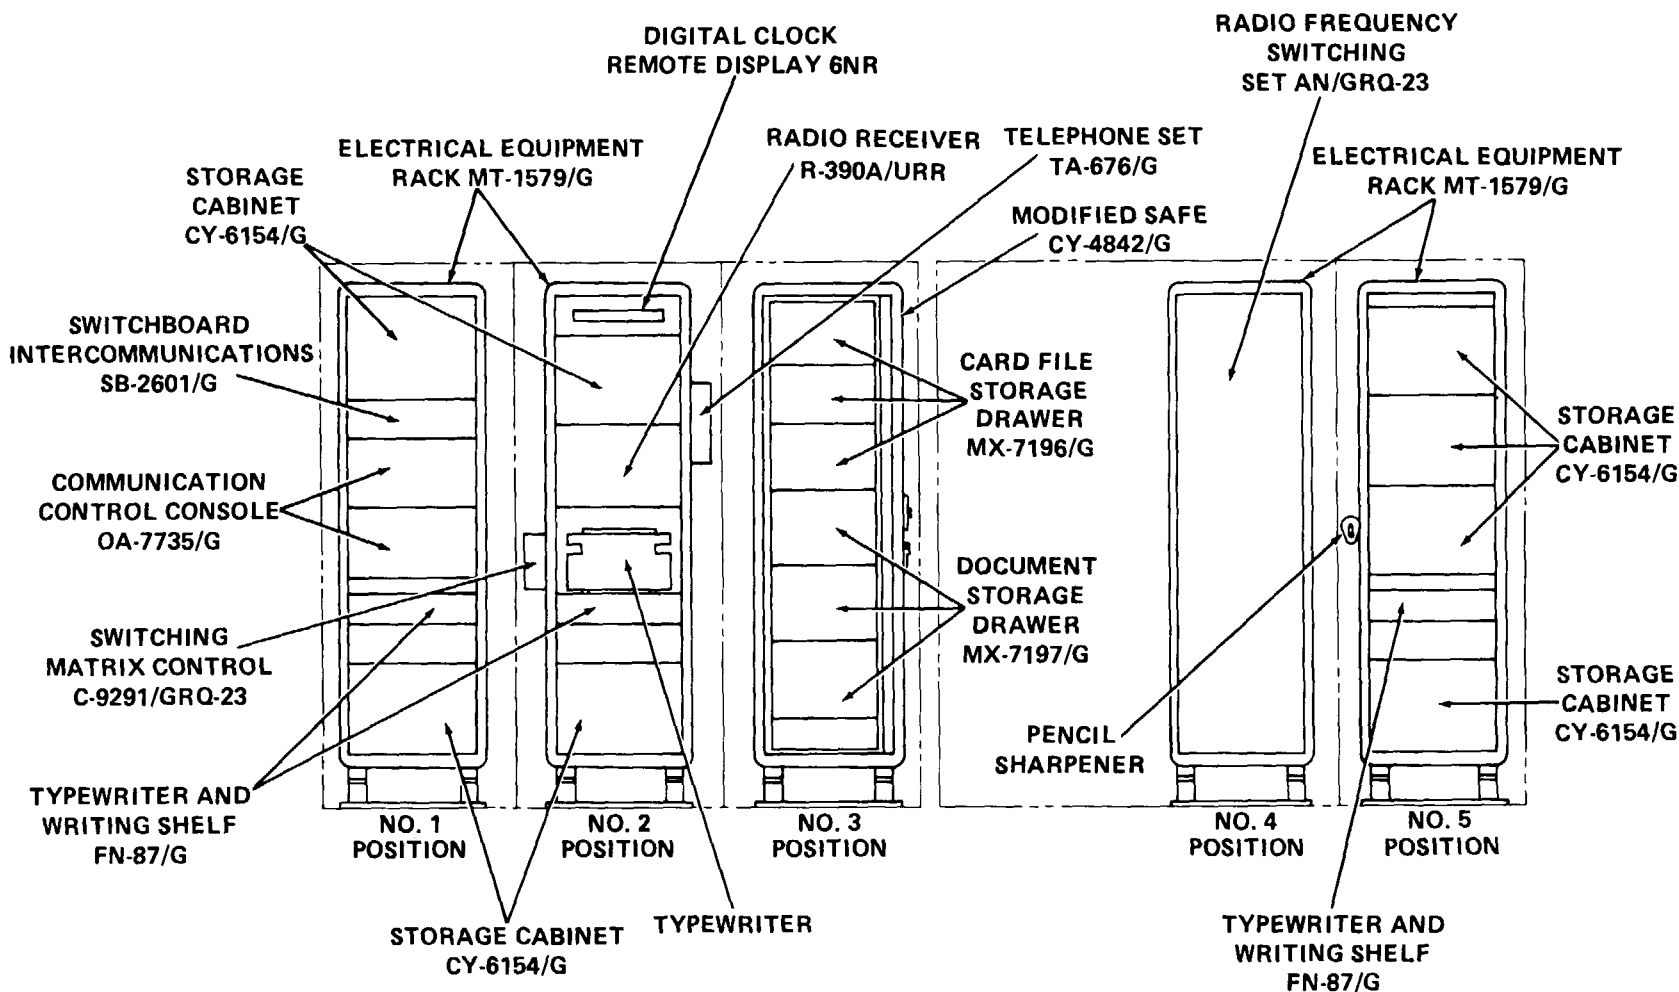

Figure 1-3. Operations Control Central AN/TSQ-78, Component Locations
b. Major Components. The major components in each of the five equipment positions (figure 1-3) are described below.